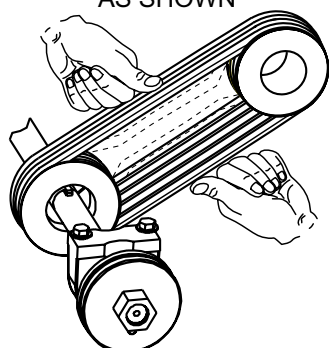

Figure 14. V-Belt Tension
3. Check V-belt tension (Figure 14) by using a tensionmeter (2.7 - 4.1 kg/6.0 - 9.0 lbs.) against the inside belt at a midpoint between the two pulleys, or by deflecting the center belt at a midpoint 10 mm (3/8") - 13 mm (1/2").